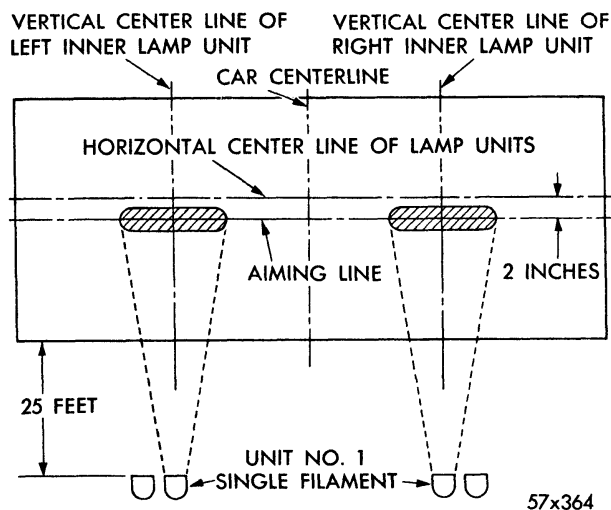
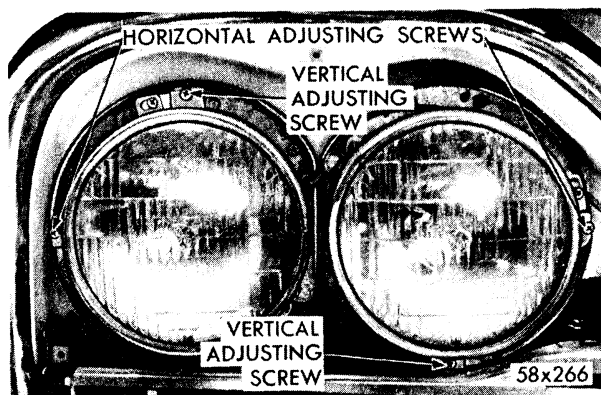
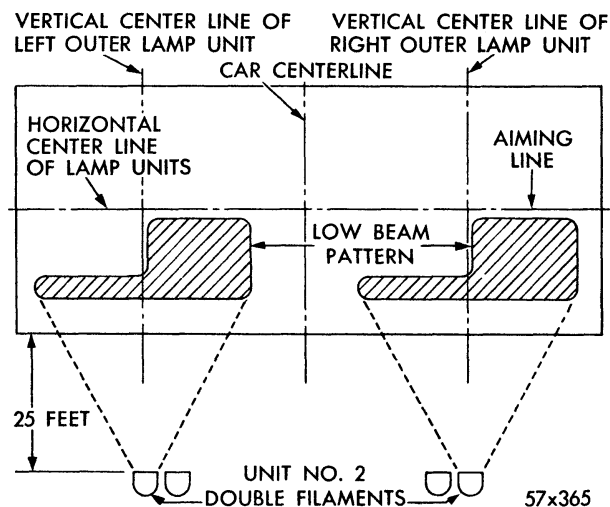

Fig. 28—Adjusting Single Filament Headlight
Fig. 29—Adjusting Dual Headlight
Fig. 30—Adjusting Double Filament Headlight
The dual headlight system has two  $5\frac{3}{4}$  inch Sealed Beams on each side of the front of the vehicle. (Fig. 29).
Place car on level surface with screen 25 feet ahead of headlight lenses. The screen (or wall) should be painted a light color. The horizontal line on screen should be 2 inches below center line of headlights (Fig. 28). The center vertical line should be equi-distant from two outer lines which represent vertical center of headlights.
Car should be on a level floor, directly facing the screen, 25 feet from the headlight lenses. Locate the center line of the car with the center vertical line of the screen. By measuring from the floor to the center of the head lamps determine the horizontal center line of the lamps. Transfer this measurement to the screen; then, locate the horizontal aiming line two (2) inches below the head lamp horizontal center line (See Fig. 28).
It will be necessary to determine vertical center lines of both inner and outer head lamps from the center of the car. Alignment should be made on the inner lamp on high beam as in Figure 28 (block off outer lamps). On low beam, adjust the outer lamp units in accordance with the low beam pattern as shown in Figure 30. Adjustment is obtained by screws at top and sides of headlights (Fig. 29).